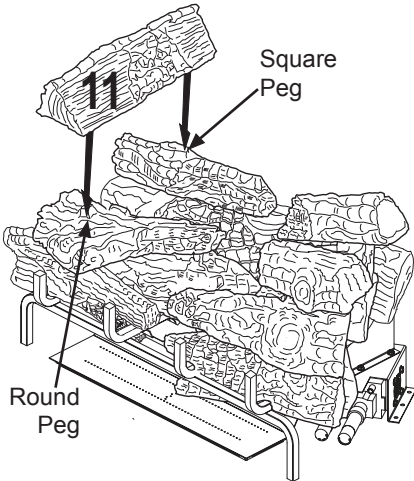

Figure 47 - Installing Log # 11
- Place the left top log (#11) on top of the left back top log (#5) and left top forked log (#6) as shown in Figure 47, page 20. Match the round peg on the top of the left top forked log (#6) with the round hole on the bottom of the top left log (#11) and rectangular peg on the top of the left back top log (#5) with the rectangular hole on the bottom of the top left log (#11).